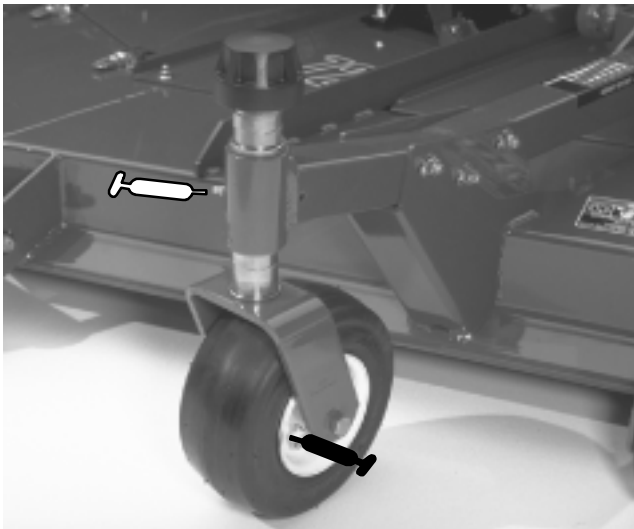
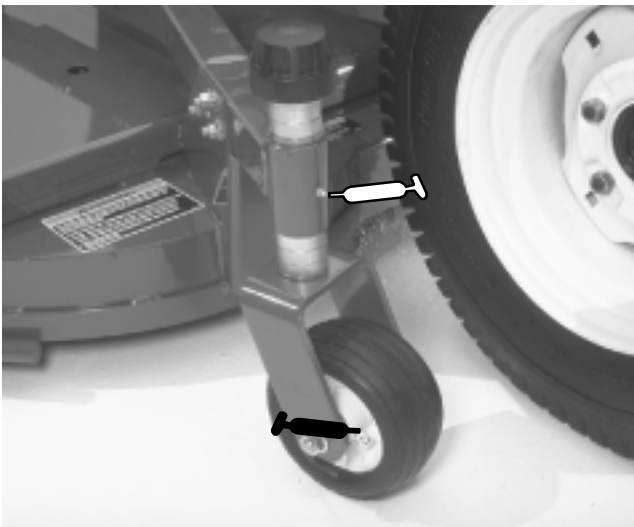
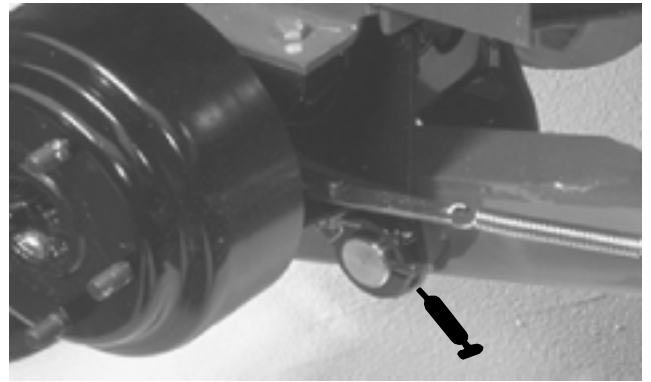
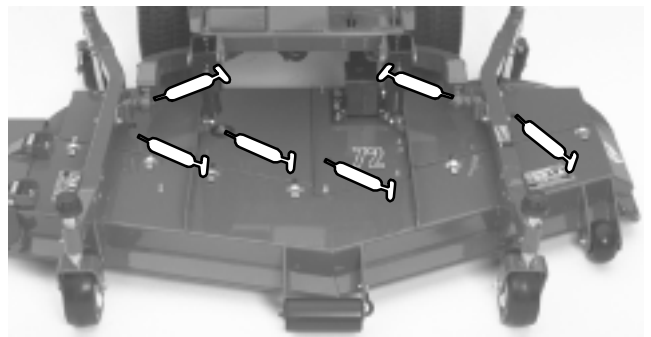

Figure 20
Figure 21
Figure 22
Figure 23
GREASE BEARINGS, BUSHINGS AND GEAR BOX (Fig. 20–24)
1. The cutting unit has bearings and bushings that must be lubricated, and these lubrication points are: front castor spindle bushings (Fig. 20); rear castor spindle shaft (Remove shaft from castor arm and coat hex shaft with designated grease every 50 hours (Fig. 21); castor wheel bearings (Fig. 20 & 21); right and left lift arm pivot pins (Fig. 22) blade spindle bearings (Fig. 23) and right and left push arm ball joints (Fig. 23).